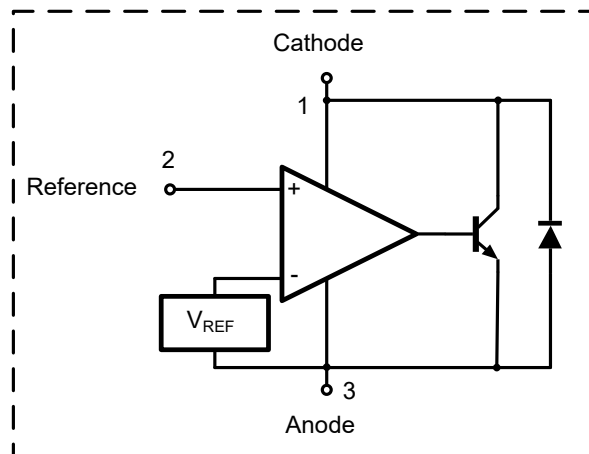

Figure 2
When the device is operating with two external resistors (see test figure. 2), the total dynamic impedance of the circuit is given by:
**Test Figure. 2**
Test Figure. 2